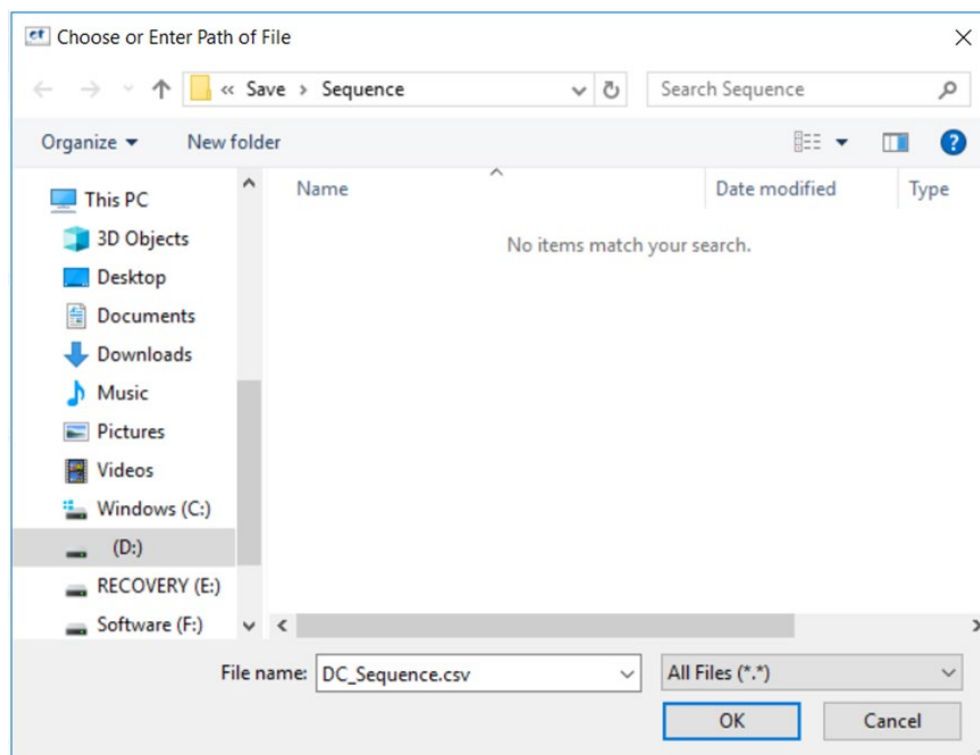

Figure 5-10 Sequence save/reload
①	Real-time parameters	The current output voltage, current and power of the power supply displays in Real time.
②	Parameter setting	The user can set parameters such as output voltage, equivalent internal resistance, upper and lower limits of current and power, dwell and switching time between working steps. The right side of each working step is the serial number and valid check box.
③	<p>Cycle number of working steps</p> <p>When “While” is not checked, set the number of loops (loops), and the current number of remaining cycles displays on the right; when “While” is checked, no need to set the number of cycles, the sequence will continue to loop, and current looped frequency displays on the right side.</p>
④	<p>Save</p> <p>Click "Save", the user can save the parameters a .csv format file during the test run as. When more complicated parameters need to be set, saving the parameter data file for future use (Figure 5-10).</p>
⑤	<p>Import</p> <p>Click "Import", the user can reload the sequence parameter file of historical test settings.</p>